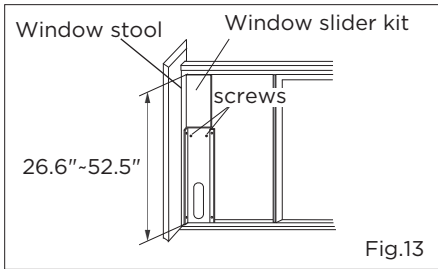

Fig.13
2. Open the window sash and place the window slider kit on the window stool (Fig.13). Attach the window slider kit to the window stool. Adjust the length of the window slider kit according to the height of window.
Screw down the two screws on the window slider kit. See Fig.13.